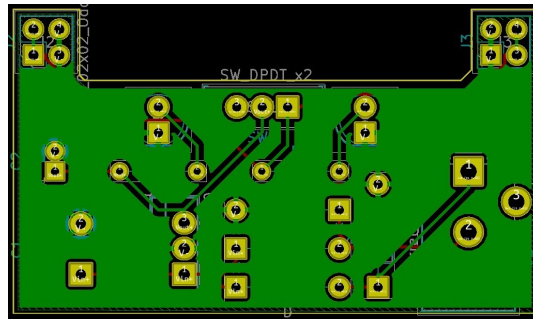

Figure 25.5: The completed ground plane in the bottom layer.
5. Draw the outline of the copper fill. Click to create an edge, and try to draw each edge of the polygon as close as you can to the border to the board. To complete the outline, double-click on the exact location where you started the drawing. Figure 25.5 shows my example board on completion of the ground plane.